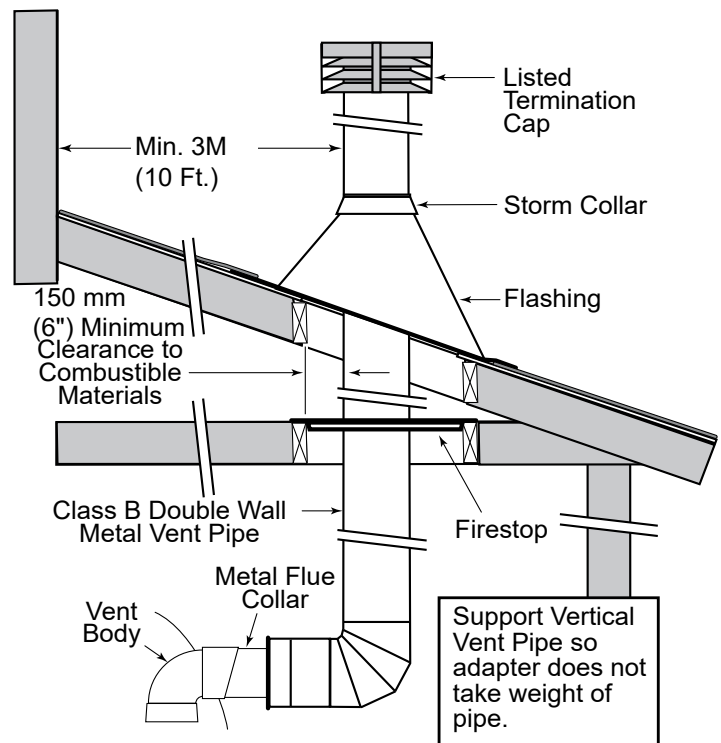

Figure 18.
(See Figure 18 and 19 on page 22)
- at least 76 mm (3 in) and at most 304 mm (12 in) out from the wall (see Figure 18), following the vent manufacturer's instructions